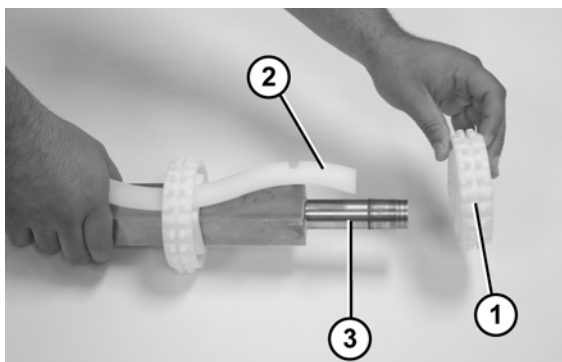

Figure 61
10. Slide the sprockets (Figure 61, item 1) and the sprocket alignment bar (Figure 61, item 2) off the drive spindle (Figure 61, item 3).